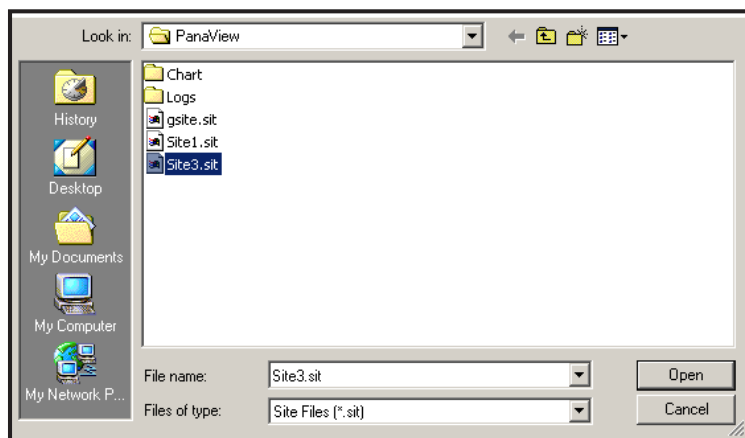

Figure 52: Site File Selection
- Then click on the [Save Site to Meter] button. A screen similar to *Figure 52* below opens.
3. The *Site File Selection* window (*Figure 52 on page 126*) opens. Highlight a site file with the desired settings, and click [Open]. The site file becomes the *Working* site in the meter with the desired settings.
2. Click [Save Site to PC]. A window similar to *Figure 52 on page 126* opens.
1. Highlight the site in the left pane. (see *Figure 52 on page 126*.)
3. The *Site File Selection* window (shown in *Figure 52 on page 126*) opens. Enter the desired site name (now with a .prt suffix) and click on [Save]. PanaView displays a text version of the site, as shown in *Figure 54* below.